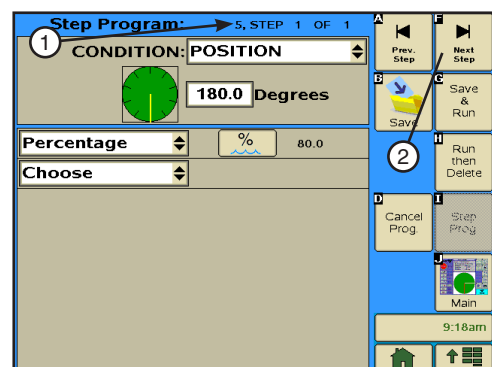

Figure 134-3 1. Step Program Identifier
5. Program the position condition for this step. Refer to Figure 134-3.